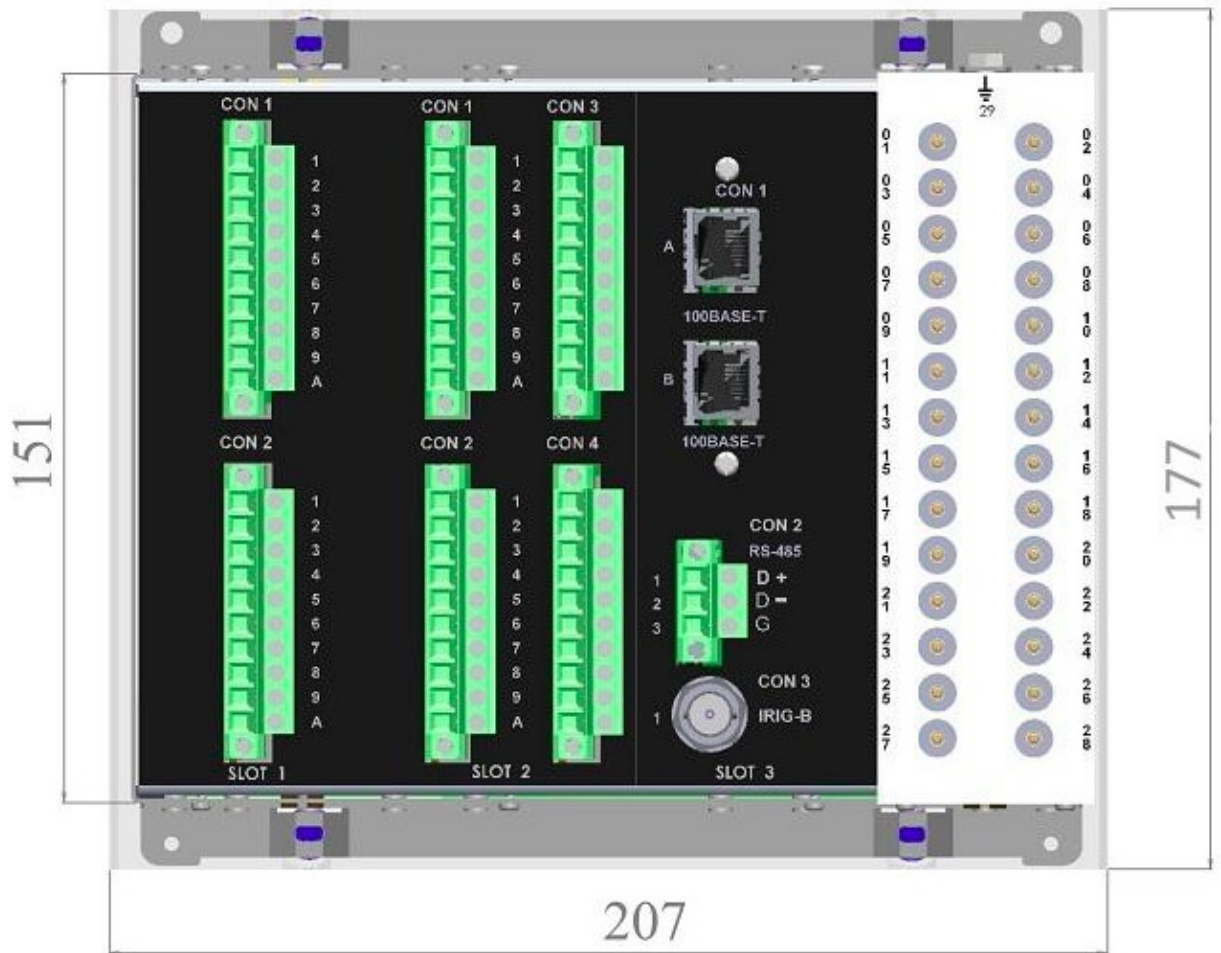

Figure 2 – F-PRO 297 Relay Rear View
1. Connect power supply to Slot 1, CON 2 #9/A, as shown in Figure 2. The wire used for the power supply wiring shall be at least 18 AWG (1.02 mm²), 600 V.